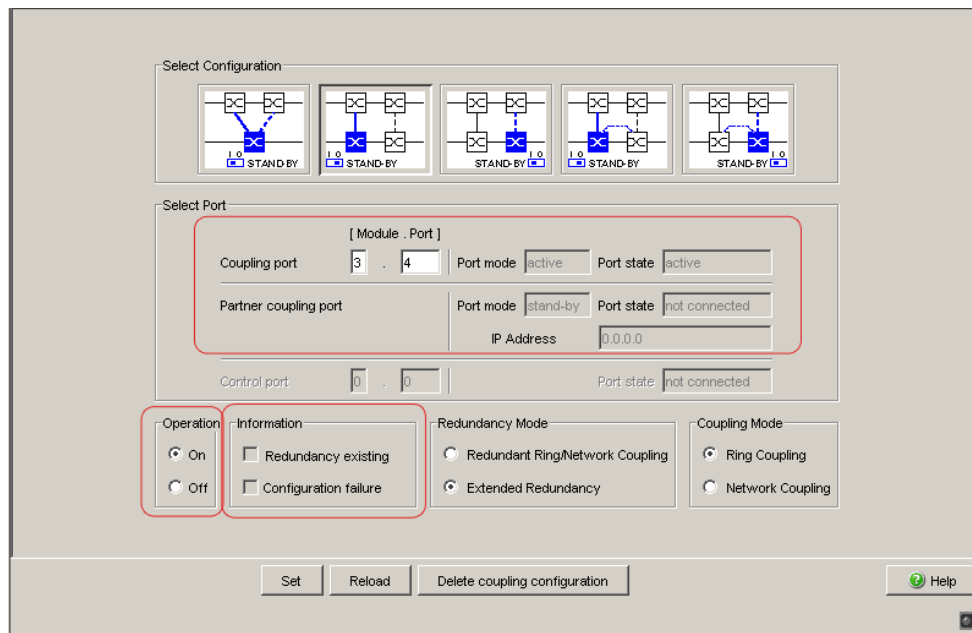

Figure 31: Two-Switch coupling: Selecting the port and enabling/disabling operation
- Select the coupling port (see figure 31).
- Activate the function in the “Operation” frame (see figure 31)
- Activate the function in the "Operation" frame (see figure 31)